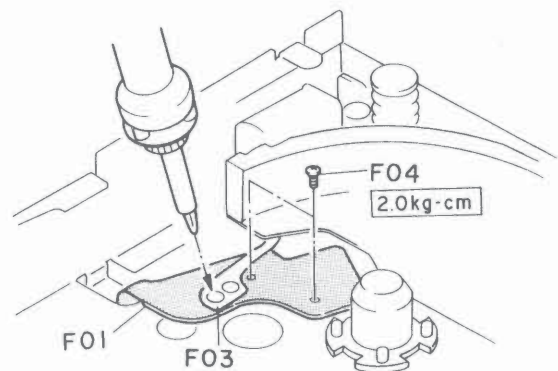

Fig. 2.10.2 Bottom View
- (3) Unsolder F03 (Flexible ST Motor P.C.B.) from F01 (Mecha Flexible P.C.B. Ass'y) and remove screws F04 (2 pcs.). Refer to Fig. 2.10.2.
- (4) Carefully remove F01 (Mecha Flexible P.C.B. Ass'y).